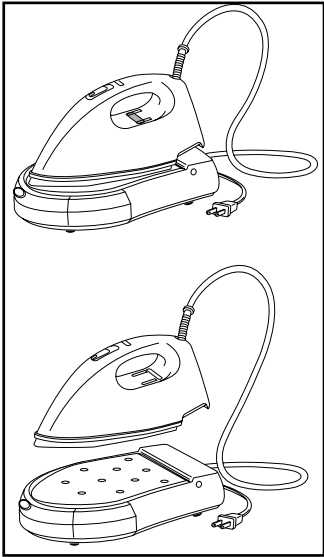

FIGURE 3 - Iron Resting On Base
1. Depress the Water Tank Lock Button and carefully pull out the Detachable Water Tank. (see Figure 3).